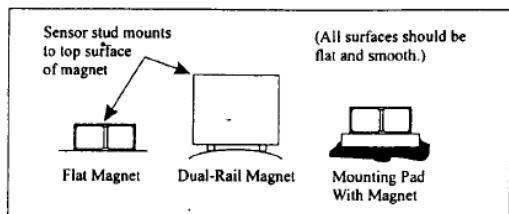

Figure 9. Magnet Types
STEP 1: After choosing the correct magnet type, inspect the unit, verifying that the mounting surfaces are flat and smooth. See Figure 9.